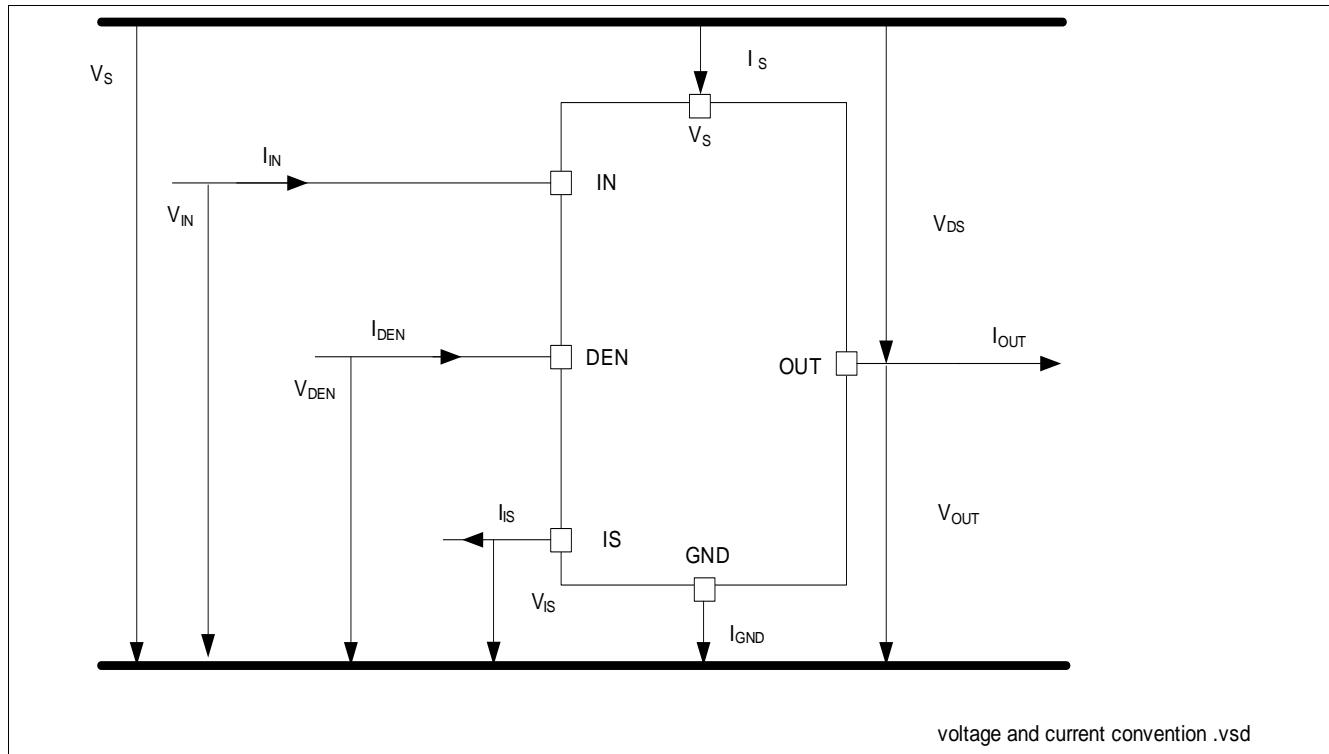

Figure 2 Voltage and Current Definition
Figure 2 shows all terms used in this data sheet, with associated convention for positive values.
- 2) Specified R_{thja} value is according to JEDEC JESD51-2,-5,-7 at natural convection on FR4 2s2p board; The product (chip + package) was simulated on a 76.4 x 114.3 x 1.5 mm board with 2 inner copper layers (2 x 70 μm Cu, 2 x 35 μm Cu). Where applicable, a thermal via array under the exposed pad contacts the first inner copper layer. Please refer to Figure 2.
General Product Characteristics**4.3.1 PCB set up****Figure 2 2s2p PCB Cross Section****Figure 3 PC Board Top and Bottom View for Thermal Simulation with 600 mm² Cooling Area**